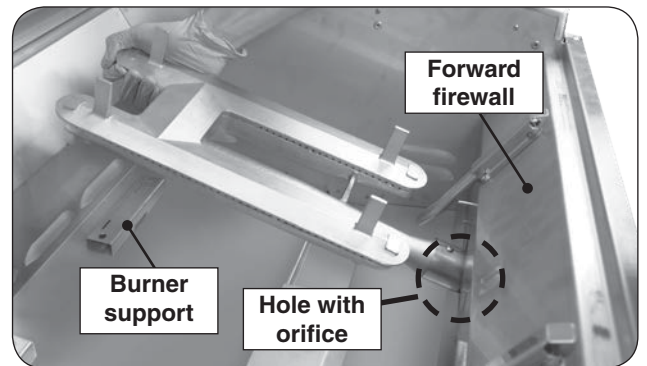

Fig. 33-3 Remove burners
3. Carefully lift the burner from the burners support and out from the hole in the forward fire wall. See Fig. 33-3.